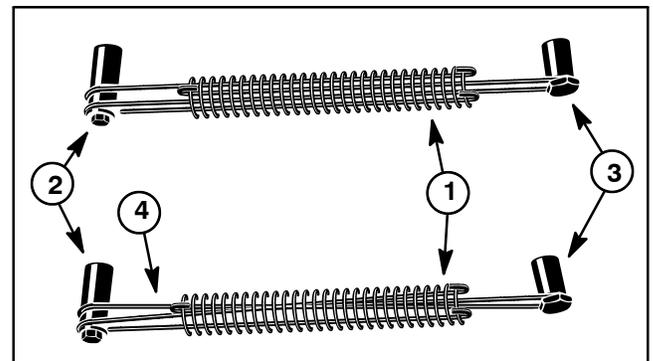

Figure 8
4. Make sure that spring wires are not broken or crossed (Fig. 8). Install both spring assemblies to rear spring post (item 8) and front spring holder (item 16).